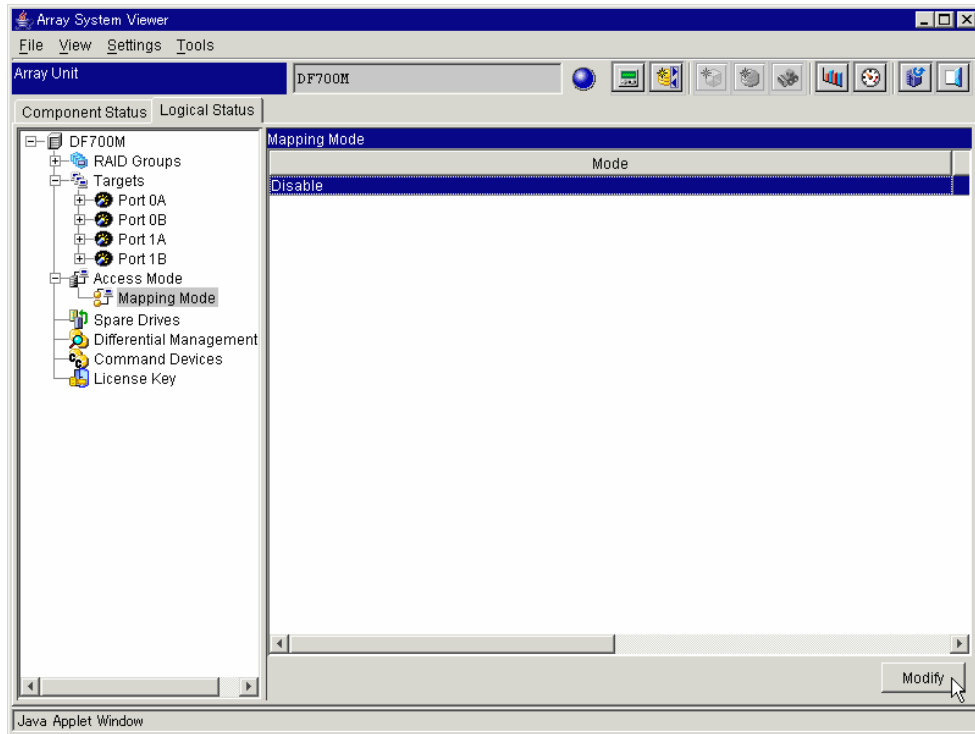

Figure 8.6 Array System Viewer - Mapping Mode
2. Click the **Access Mode** plus sign. Select **Mapping Mode**. See Figure 8.6.